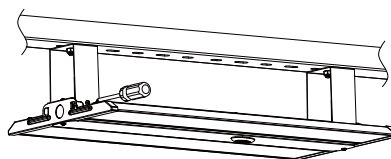

Figure 6
Step2. Assemble the lamp on the bracket and fix it with screws (Figure 6);